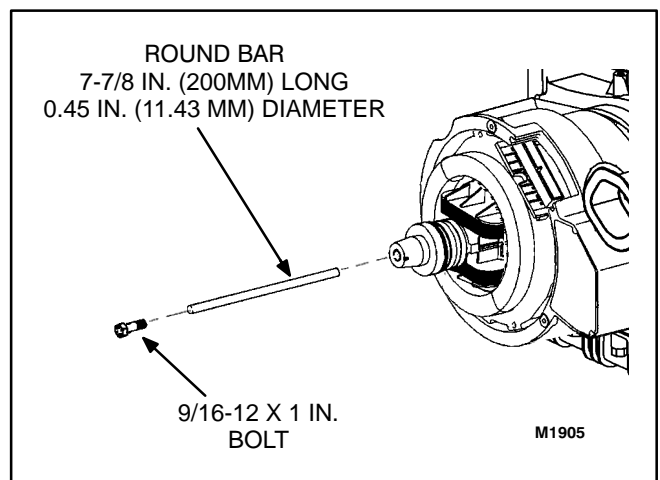

FIGURE 9-5. ROTOR REMOVAL
13. Pull outward on the rotor shaft to remove it. If the rotor does not come loose from the tapered engine crankshaft, install a solid round bar stock 7-7/8 inches (200mm) long by 0.45 inches (11.43 mm) in diameter into the rotor through bolt hole (Figure 9-5). Thread a 9/16-12 x 1-inch bolt, into the end of the rotor shaft and slowly tighten the bolt until the rotor comes loose.